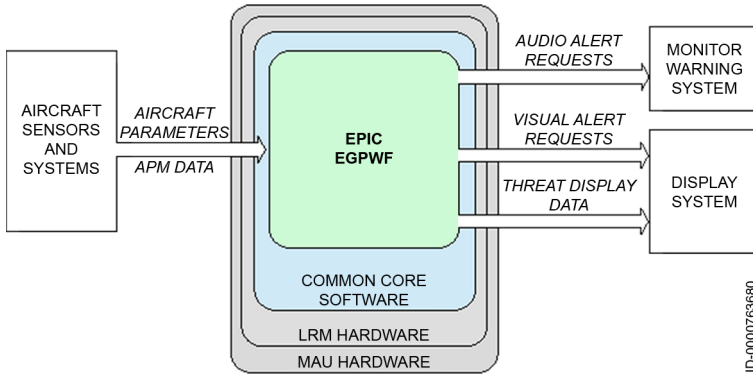

Figure 20-1
- The enhanced ground proximity warning function (EGPWF) hosted as a software function on a line replaceable module (LRM) within the module avionics unit (MAU). The EGPWF block diagram is shown in Figure 20-1.